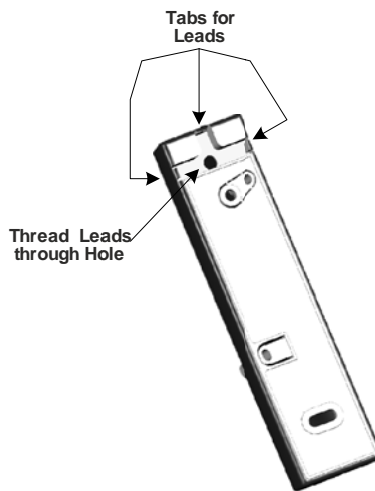

Figure 37: External Leads Placement in the ES700MGLS device
When installing the ES700MGLS device as an magnet detector, the configuration settings provides you with the option of using the device as an input terminal for an external legacy magnet device. The external magnet must be hardwired to the ES700MGLS device as if it was defined as an RF Input device (see Figure 37 and
3. Thread the leads from the external device through the back of the mounting (see Figure 37).